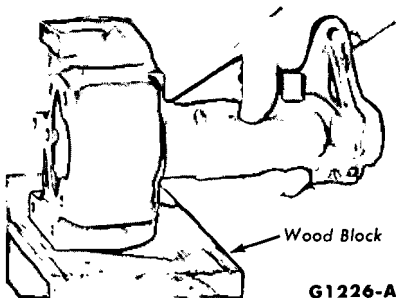

FIG. 8—Removing Lower Bearing Cup from Housing
5. Remove the lower bearing and cup from the housing. It may be necessary to tap the housing on a block of wood (Fig. 8) to loosen it from the housing.